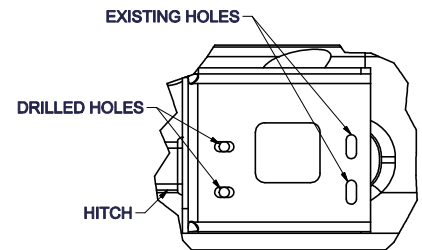

FIGURE 2
4. Using the hitch as a template mark the required drill holes. Drill holes with 5/8" drill bit. See figure 2.
7. Reinstall bumper using (4) bolts removed in step 1. Do not install shim plates and return to customer.
8. Place 1/2"-13 x 1 3/4" bolts along with a 1/2" washers in (4) drilled holes. Secure with SP16 spacers and 1/2"-13 handle nut as shown.